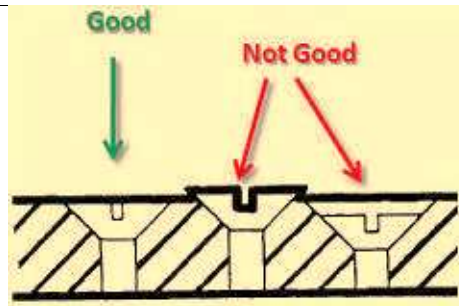

Figure 4-39. Proper and improper countersinking.
**Countersinking Procedures:** Good procedures require that the countersink be run at a speed approximately one-half of the speed for the same size drill. Feed should be light, but not too light to cause chatter. A proper cutting fluid should be used to produce a smooth finish. Rough countersinking is caused by too much speed, dull tools, failure to securely hold the work, or inaccurate feed. The depth stop mechanism should be used when countersinking to ensure the recess will allow the flathead screw to be flush with the surface (Figure 4-39).